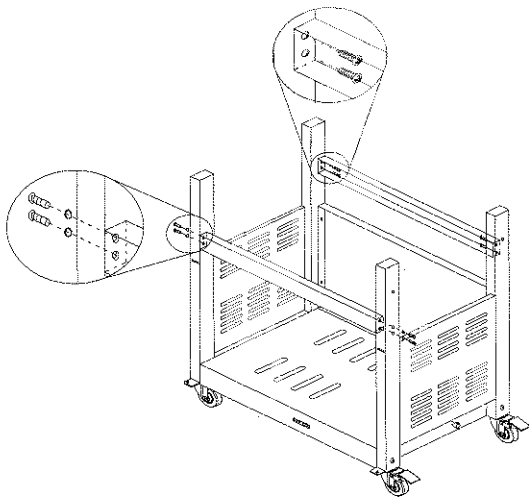

Figure 5
5. Attach front beam to side panels by using 1/4" x 35mm philips and back beam to side panels by using 1/4" x 15mm philips head screws. (Fig.5)